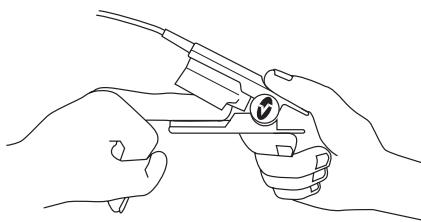

Fig. 1
- Refer to Fig. 1. Open the sensor by pressing on hinge tabs. Place the selected digit over the sensor window of the sensor. The fleshiest part of the digit should be covering the detector window in the lower half of the sensor. The top half of the sensor is identified by the cable. The tip of the finger should touch the raised digit stop inside the sensor. If the fingernail is long, it may extend over and pass the finger stop.